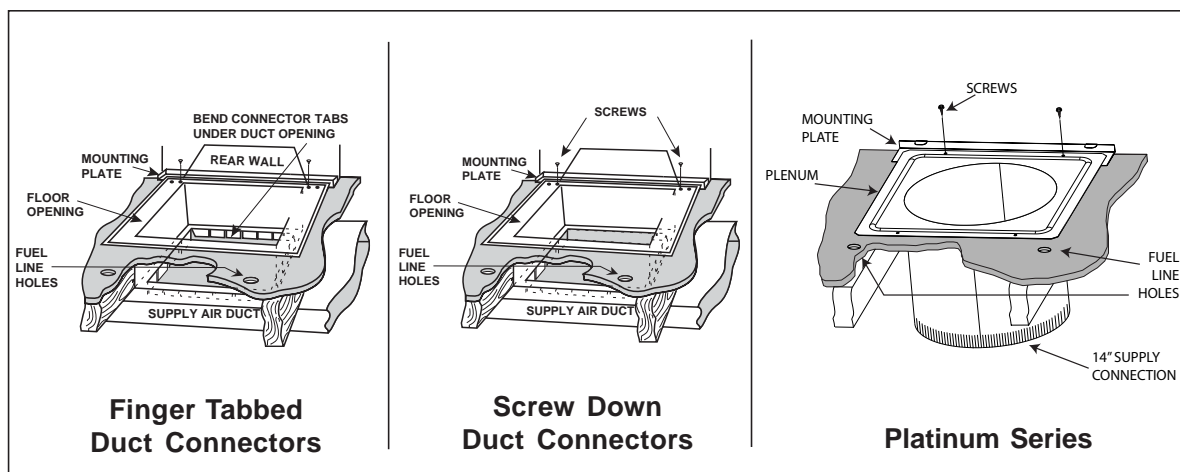

Figure 9. Duct Connector
- Place mounting plate (supplied within duct connector) at rear of the floor opening (See Figure 9).
- Place duct connector through the floor opening. (See Figure 9).
- a. Place duct connector through the floor opening with bottom tabs extending through the duct opening. (See Figure 9)